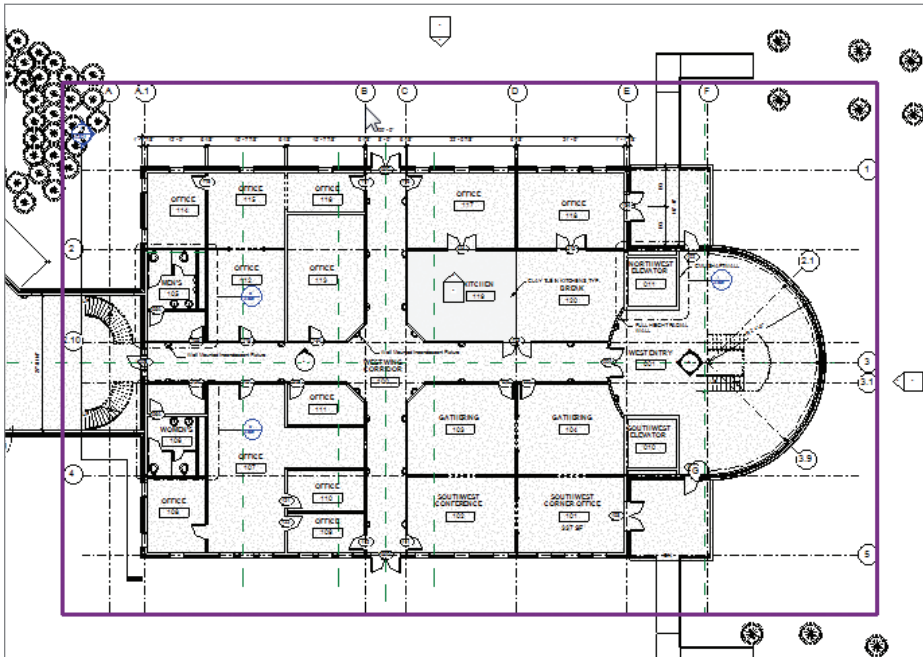

FIGURE 20.5 Selecting the link to Copy/Monitor
3. Hover your pointer over one of the grids. You will see an outline of the Revit Structure model that you have linked in. When you see the outline, pick the grid (see Figure 20.5).